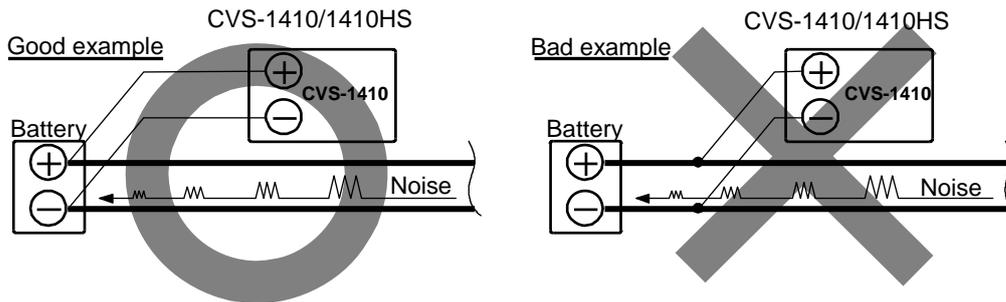

Fig. 5.1 Connection of Power Line
- (1) Keep the transducer and power cable as far away from the cables of other electronic equipment as possible.
- (2) The cabinet of CVS-1410/1410HS Display unit is securely grounded to the hull, using the ground terminal on the rear panel.
- (3) If you connect the power cable directly to the battery, the interference from other electronic equipment is not subject to occurrence. (See Fig. 5.1.)